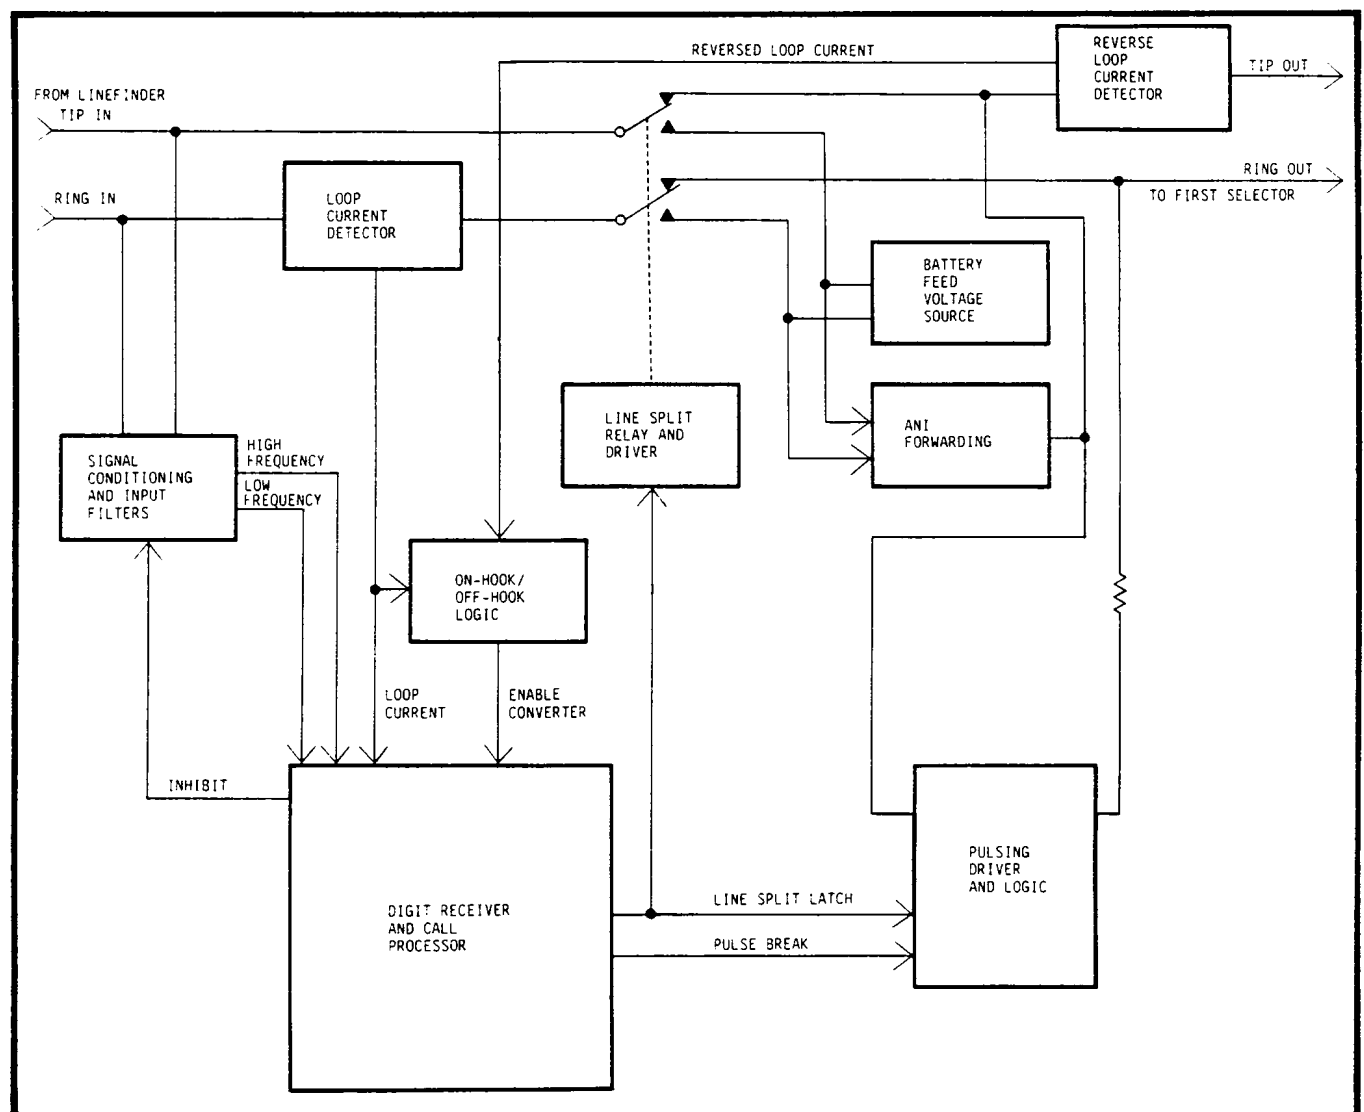

Figure 4 Simplified Block Diagram
Ring IN pair at all times as shown in figure 4. The input impedance of the tone receiver is above 75K ohms at all the frequencies of interest and causes no more than 0.052 dB of loss from the line. This input is filtered to separate the high group and low group DTMF frequencies which are then analyzed for possible detection as a DTMF digit.
5.01 To assist maintenance and troubleshooting this description follows a call as it is handled by the M-164-71 (see Figures 4 and 5).
5.07 When the tones have persisted for 40 ms the value of the digit is latched. When the incoming tones end, the line is split in preparation for outpulsing by the operation of the relays shown in Figure 4. This cuts off dial tone to the calling station, connects the internal battery feed supply to the calling station, and connects the ANI forwarding feature to the line. Pulses generated by the converter will pulse the selector.
5.12 Converted DTMF digits appear on Tip and Ring OUT as rotary-type dial pulses generated by the transistorized pulsing circuit under the control and timing of the Digit Receiver and Call Processor (see Figure 4). The line is held split during the interdigital times and is restored 670-760 ms after the last pulse of the most recently received digit. If another digit is then received, its outpulsing will not start until one make period after the interdigital time of the previous digit is completed.